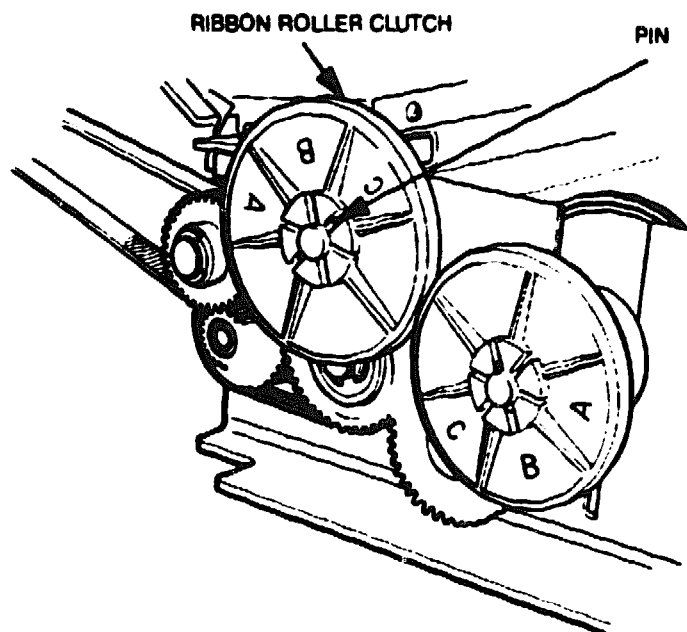

Figure 4-11 Ribbon Feed Roller Clutch Adjustment
5. Remove the retaining pin shown in Figure 4-11 by pressing the ribbon roller clutch inward and then turning it. If the amount of tension measured in step 3 is smaller than 1.6 kg, set the retaining pin to position A on the ribbon roller clutch (see Figure 4-11). If the measurement is larger than 2.0 kg, set the retaining pin to position C.